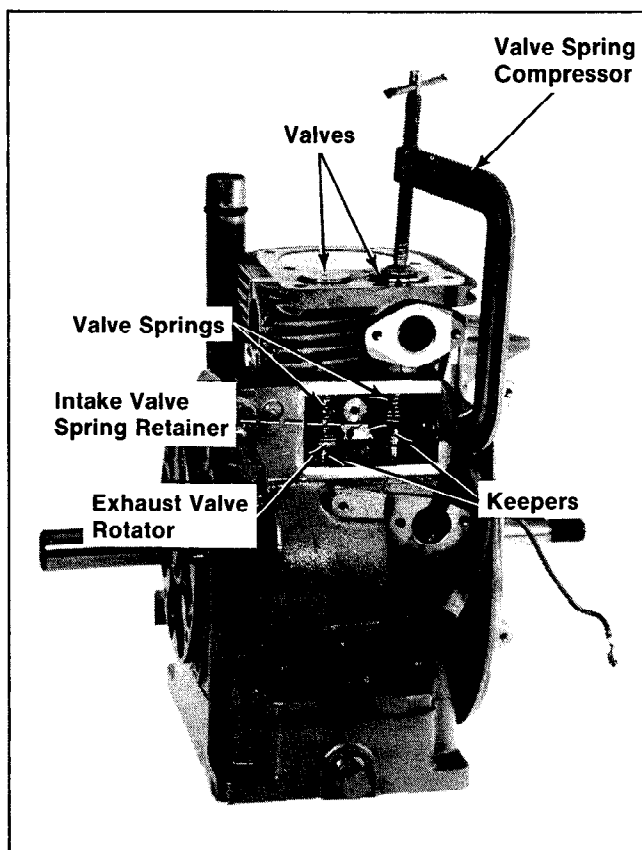

Figure 12-40. Installing Valves – K91, K161 And K181.
4. On Models K91, K161 and K181, install the valve springs (close coils to top), intake valve spring retainer, exhaust valve rotator or retainer, and valves. Refer to Figure 12-40.